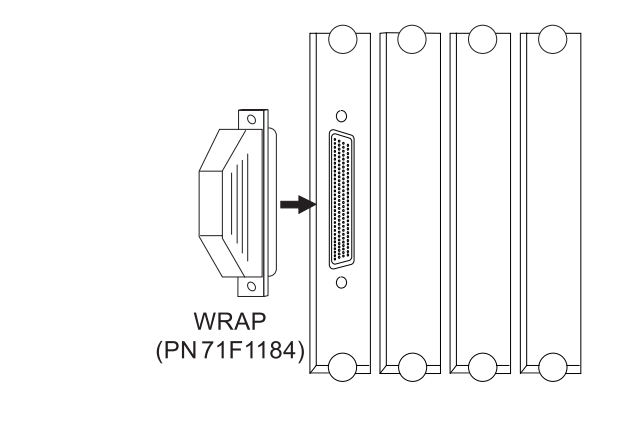

Figure 3-5. Adapter Wrap Test Connection
1. The adapter, see Figure 3-5